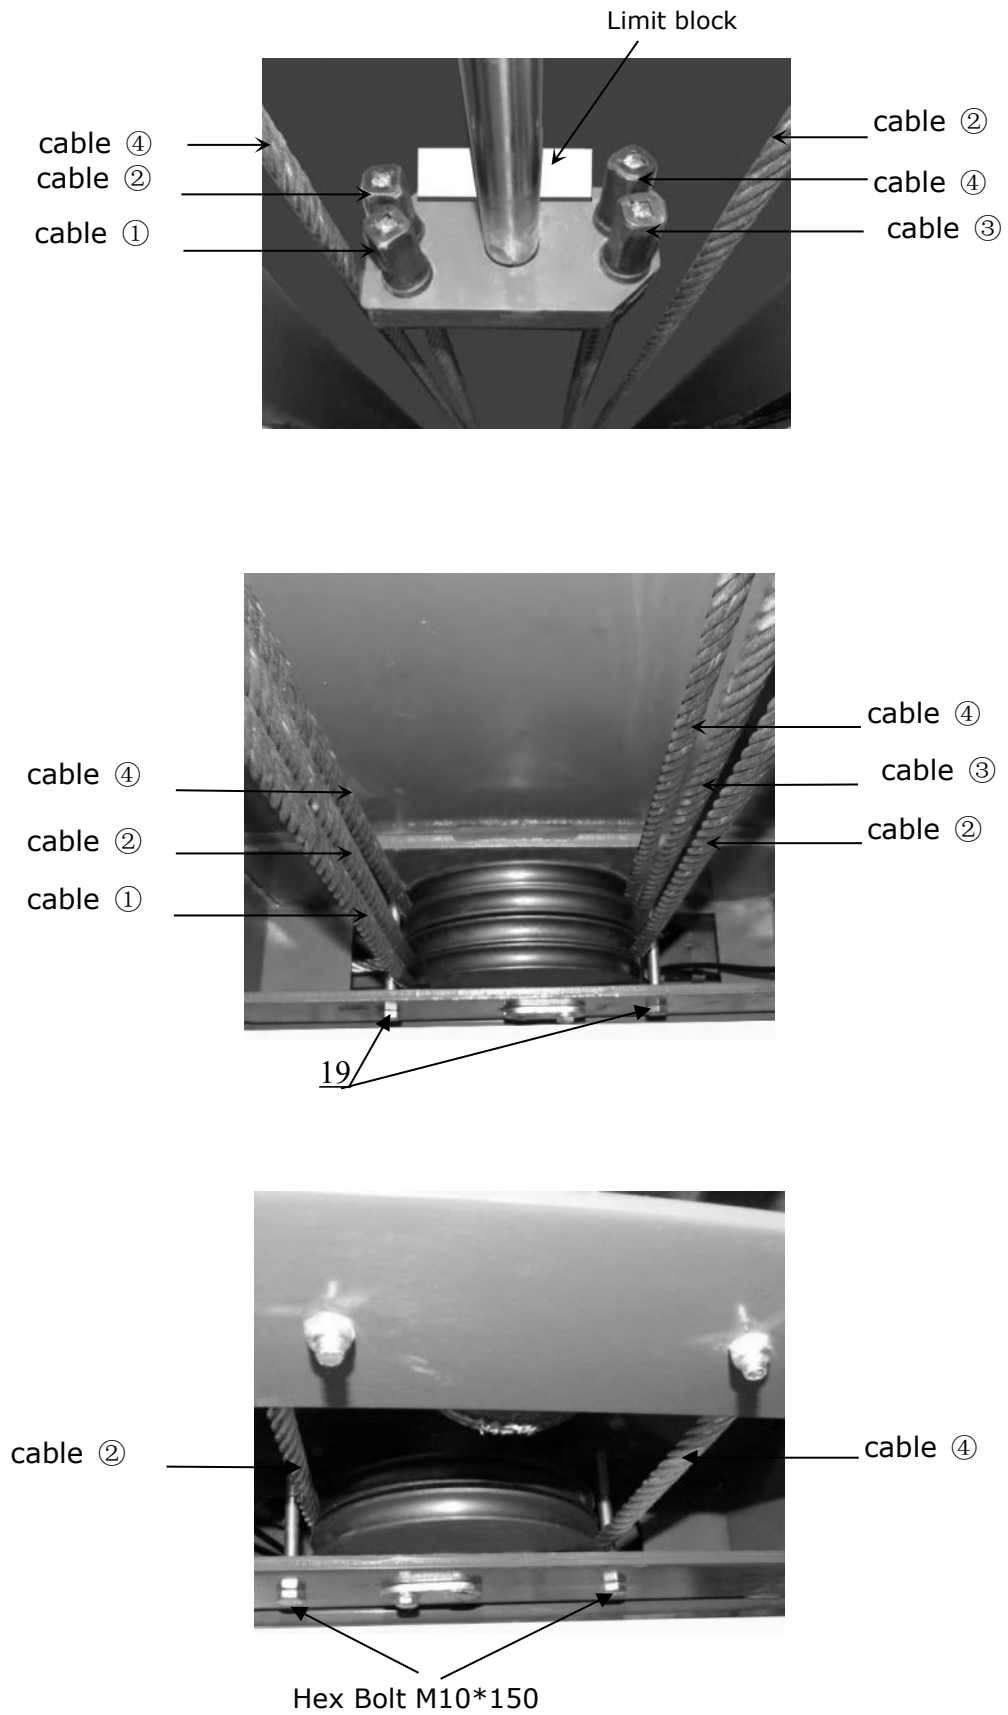

Fig. 25
3. Illustration for platform cables (See Fig. 25).